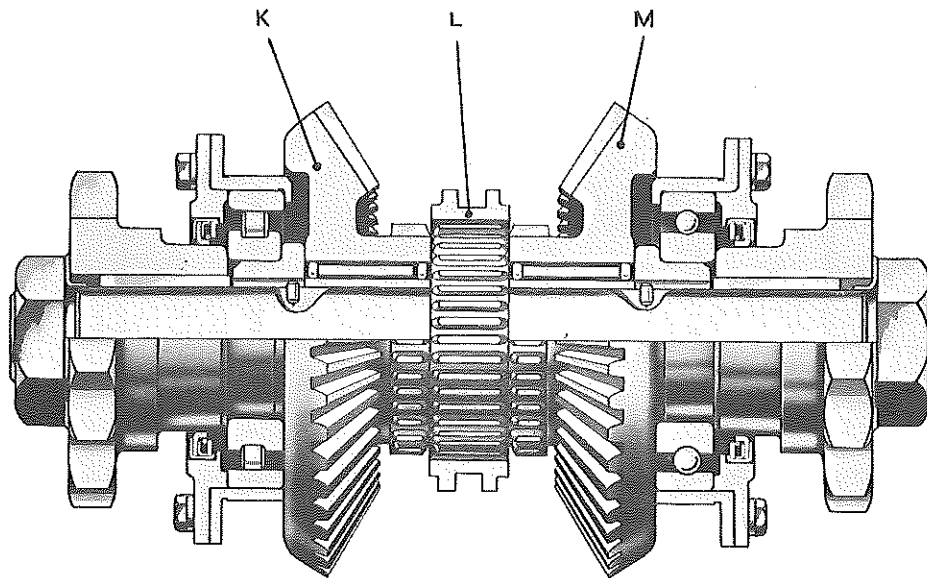

Fig. 35. FINAL DRIVE ASSEMBLY
The forward and reverse bevels K and M (Fig. 35), are free to idle on roller bearings on the final drive shaft. Direction is selected by manual operation of a sliding dog (L), between the bevel gears which brings the selected bevel into drive with the shaft. An interlock, operated by oil pressure to the clutch assemblies, prevents movement of the sliding dog when a clutch is engaged.